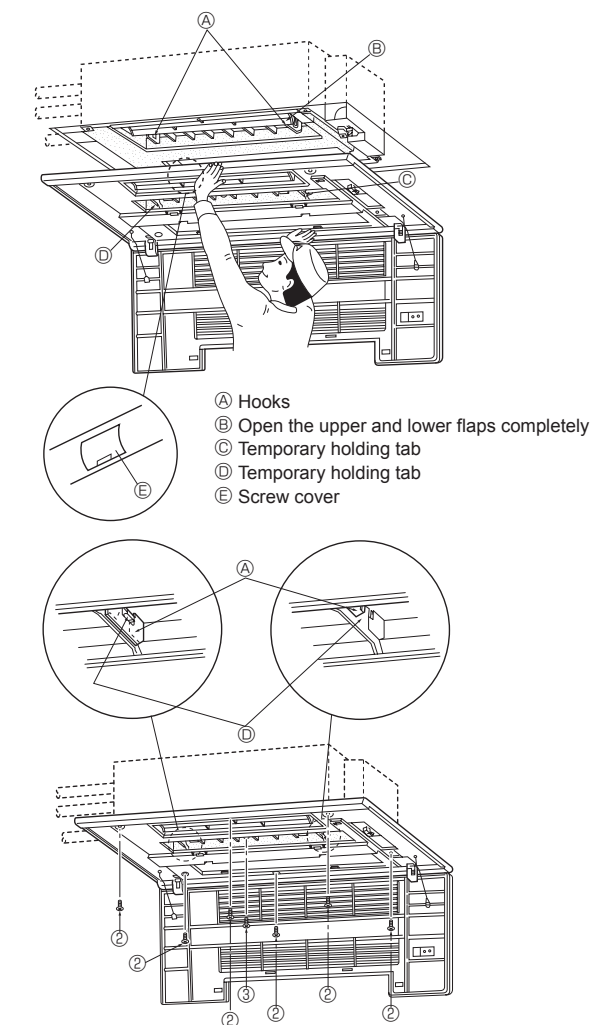
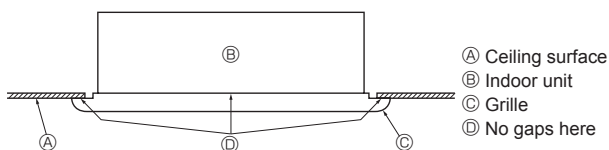

Fig. 7-3
Fig. 7-4
- Hook the temporary holding tabs on the front panel to the hooks on the indoor unit (see Fig. 7-3).
- Adjust the front panel so that it fits properly in the angle between the ceiling and the wall, and install the securing bolts ② (supplied with this grille) in their 4 places at left and right, leaving them slightly loose.
- Next tighten the securing bolts ② and securing screws ③ in the center 3 places.
- Finally tighten the securing bolts ② in the 4 places at left and right.
- At this point, make sure there are no gaps between the indoor unit and the front panel, and between the front panel and the ceiling surface. If there are gaps, the wind may come in and it may cause water to drip (see Fig. 7-4).
- * Tighten the securing bolts ② and securing screws ③ completely.
7.4. Checks after installing (Fig. 7-4)